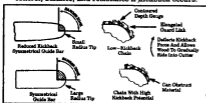

Figure 5
- **Reduced-Kickback Guide Bar**, designed with a small radius tip which reduces the size of the kickback danger zone on bar tip. Figure 5. A reduced-kickback guide bar is one which has been demonstrated to significantly reduce the number and seriousness of kickbacks when tested in accordance with safety requirements for electric chain saws as set by CSA Z62.1 & Z62.3.
- **Low-Kickback Chain**, designed with a contoured depth gauge and guard link which deflect kickback force and allow wood to gradually ride into the cutter. Figure 5. Low-Kickback Chain is chain which has met kickback performance requirements of CSA Z62.1 & Z62.3, & ANSI B176.1.